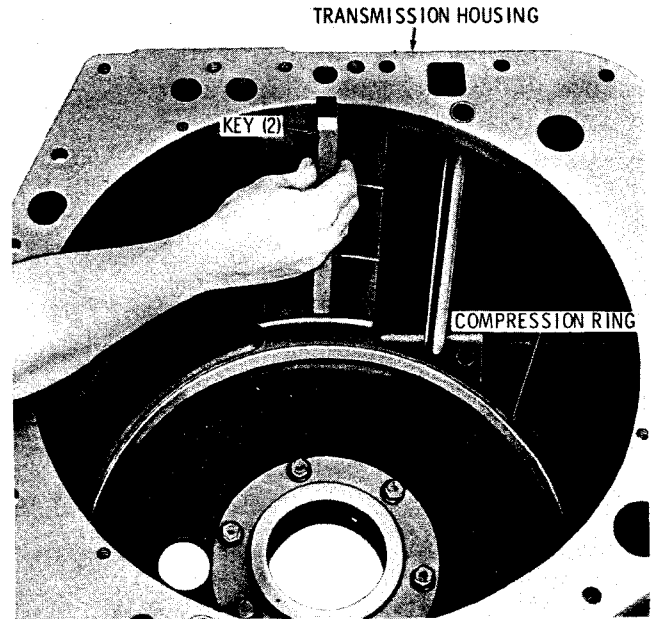
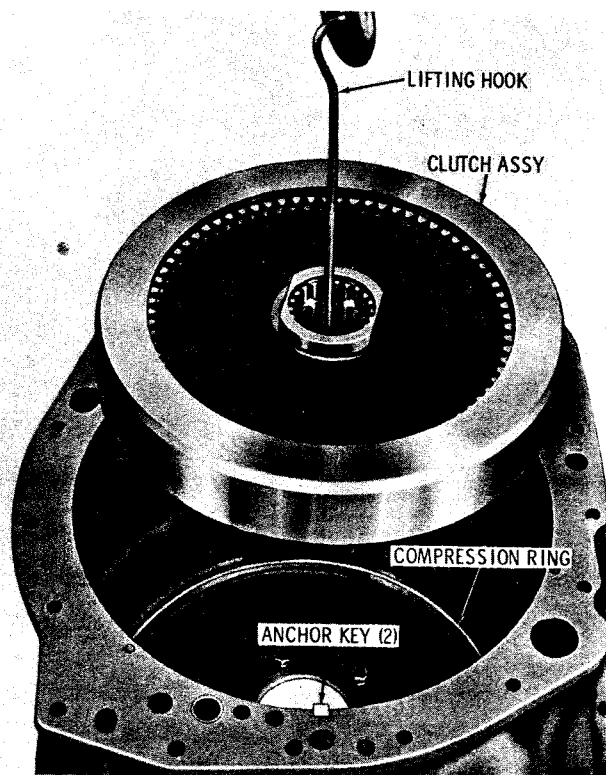

Fig. 7-10. Installing clutch anchor key
Fig. 7-11. Installing low-range clutch assembly
(1) Position the transmission housing, rear downward, on blocks so that it clears the work surface by at least 7 inches. Be sure the center area will not obstruct the installation of the main shaft (fig. 7-10).
(2) Install two clutch anchor keys into oppositely located slots in the transmission housing (fig. 7-10). Be sure each key is fully seated and against the rear end of its slot.
(3) Install a new compression (crush) ring into the housing (fig. 7-10). The ring should lay evenly around the inner circle of the large bore in the rear of the housing.
(4) Make sure that thrust washer 16 (A, foldout 10) and two step-joint Teflon seal rings 17 are in place at the rear hub of the low-range clutch.
(5) Using the special lifting hook (refer to para 4-3a), install the low-range clutch assembly (fig. 7-11). Be careful to avoid damage to the seal rings on the rear hub.